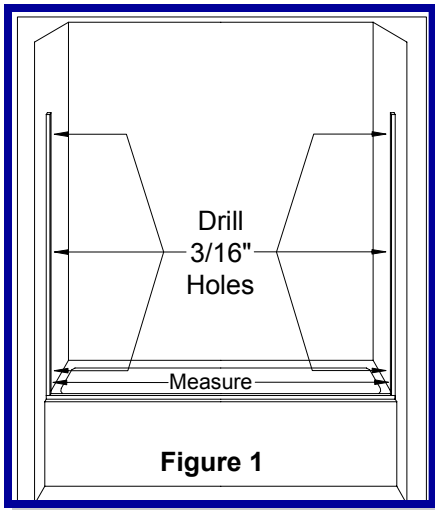
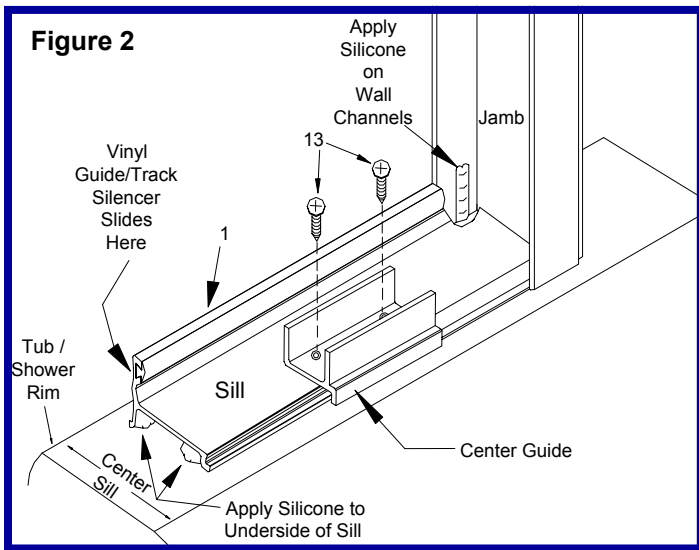
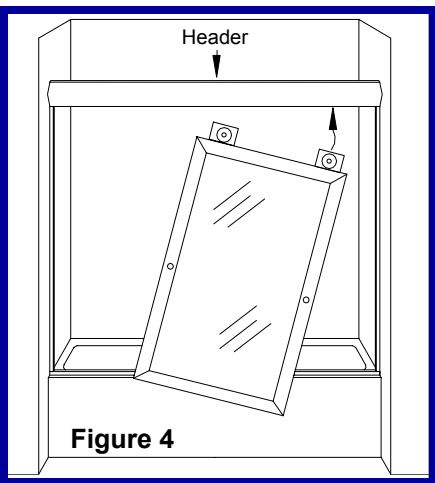

Figure 1
Figure 2
Figure 4
- Measure wall to wall opening on the tub/shower rim. **(See Figure 1)**
- Cut the sill track (1) 3/8" less than opening width & center with the bottom rim width of the tub/shower ledge with high side of sill to the front. (Verify that the vinyl track silencer (14) is installed in the sill, if not simply slide it into the slot located on the sill.) **(See Figure 2)**
- Drill the two holes through the center guide's holes through the sill & set both aside. **(See Figure 2)**
- Measure, plumb, level and mark both sides of the tub/shower opening for the wall jamb (2).
- Remove jamb & drill 3/16" diameter holes on the marks. (For tiled walls use a carbide tip bit. For fiberglass walls, use a standard 1/8" drill bit.) **(See Figure 1)**
- Run a bead of silicone the full length of the underside of the sill. **(See Figure 2)**
- Place the center guide back in the center of the sill and secure with #6 x 3/8" FH SMS (13) screws.
- Place the bumper (5) over the middle hole on the jamb and secure with a #8 x 1 1/2 (4) PH SMS screw. **(See Figure's 1 & 2)**
- Apply silicone where the wall meets the rim of the tub/shower to seal the bottom of the jamb. **(See Figure 2)**
- Peel the back off the wall jamb guides (22) & stick one on each jamb near the bottom.
- Measure the wall to wall opening on the tub/shower rim above the jambs. **(See Figure 4)**
- Cut the header (6) 1/16" less than the opening
- Attach rollers (7) to brackets (20) on top of door panels with #8-32 x 3/8" PH MS (8) Screws.
- Insert one roller at an angle then raise the other side and insert that roller. **(See Figure 4)**